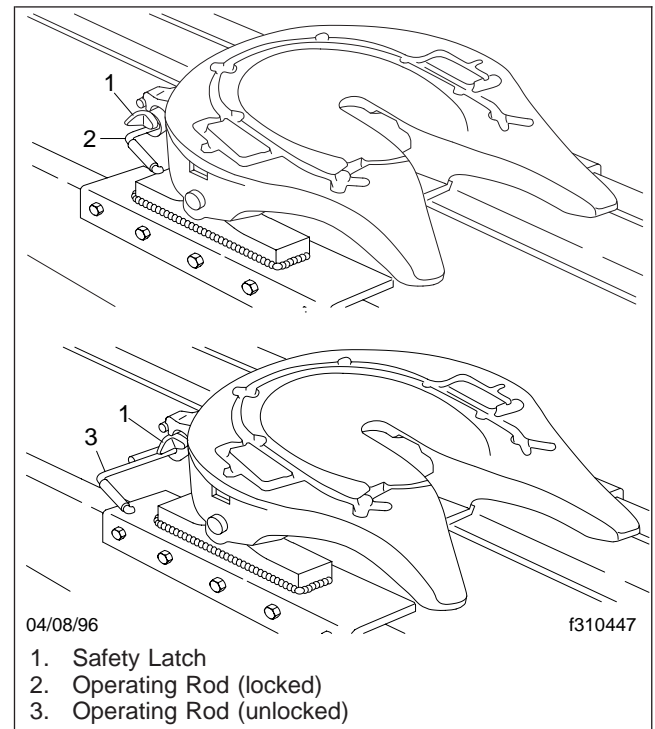

Fig. 10.13, Simplex Kingpin Locking Mechanism, Locking and Unlocking
pin to move out of the mechanism. With the jaw in the fully open position, the operating rod drops out of the lockset position, and the fifth wheel is ready for coupling. See Fig. 10.13.
6. *If equipped with a manual kingpin lock release:* Release the kingpin lock mechanism by raising the safety latch to the rear and pulling the lock operating rod out and up into the lockset position. See Fig. 10.13. The offset of the lock control upper rod should bottom against the plate casting above the hole. If the operating rod cannot be pulled to the lockset position, back the tractor slightly to release the kingpin force against the jaw.